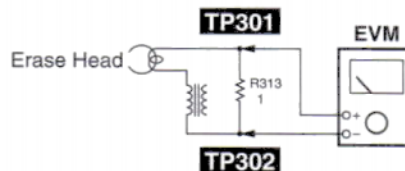

Fig. 6
2. Check if the output at this time between the erase current confirmation point **TP301** and **TP302** (the output on both edged of R313) is within the standard value. (Refer to Fig. 6.)